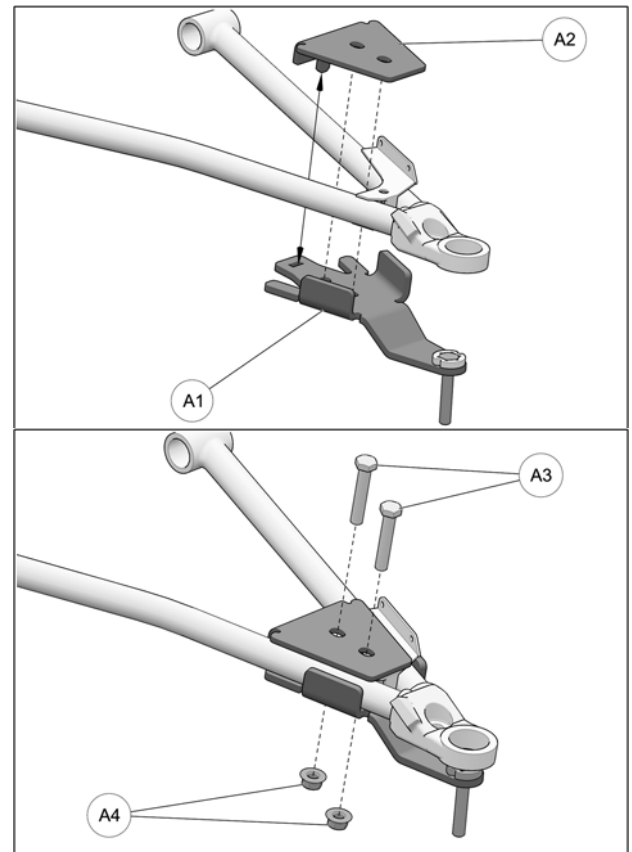

Fig. 12
5. Position bottom part of anchor bracket (A1) assembly under front lower suspension arm, as shown in the figure below. Position bracket cover (A2) over suspension arm and align holes in cover and bottom part. Insert M10x55mm bolts (A3) through top and secure the two parts together with nuts (A4) provided. Tighten assembly to 50 N•m [37 lb•ft] of torque. Refer to Fig. 12